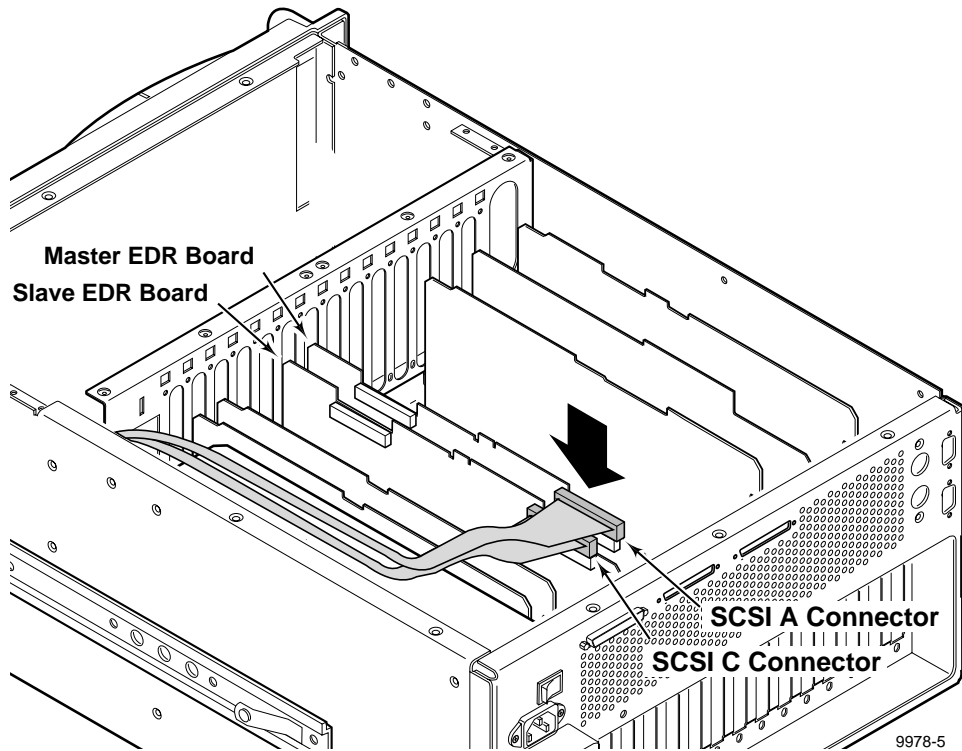

Figure 9. Connecting the SCSI A and SCSI C Cables
1. Connect the SCSI A cable from the Hard Drive (Bank A) to the SCSI A connector on the Master EDR board, and the SCSI C cable from the Hard Drive (Bank C) to the SCSI C connector on the Slave EDR board, as shown in Figure 9.